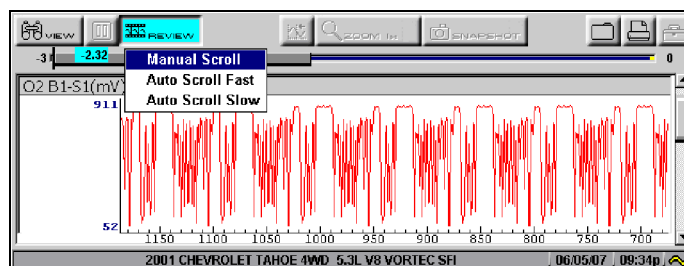

Figure 5-73 Sample REVIEW drop-down menu
1. With the **REVIEW** button selected, press **Y/✓** again to display a drop-down menu of options (Figure 5-73).